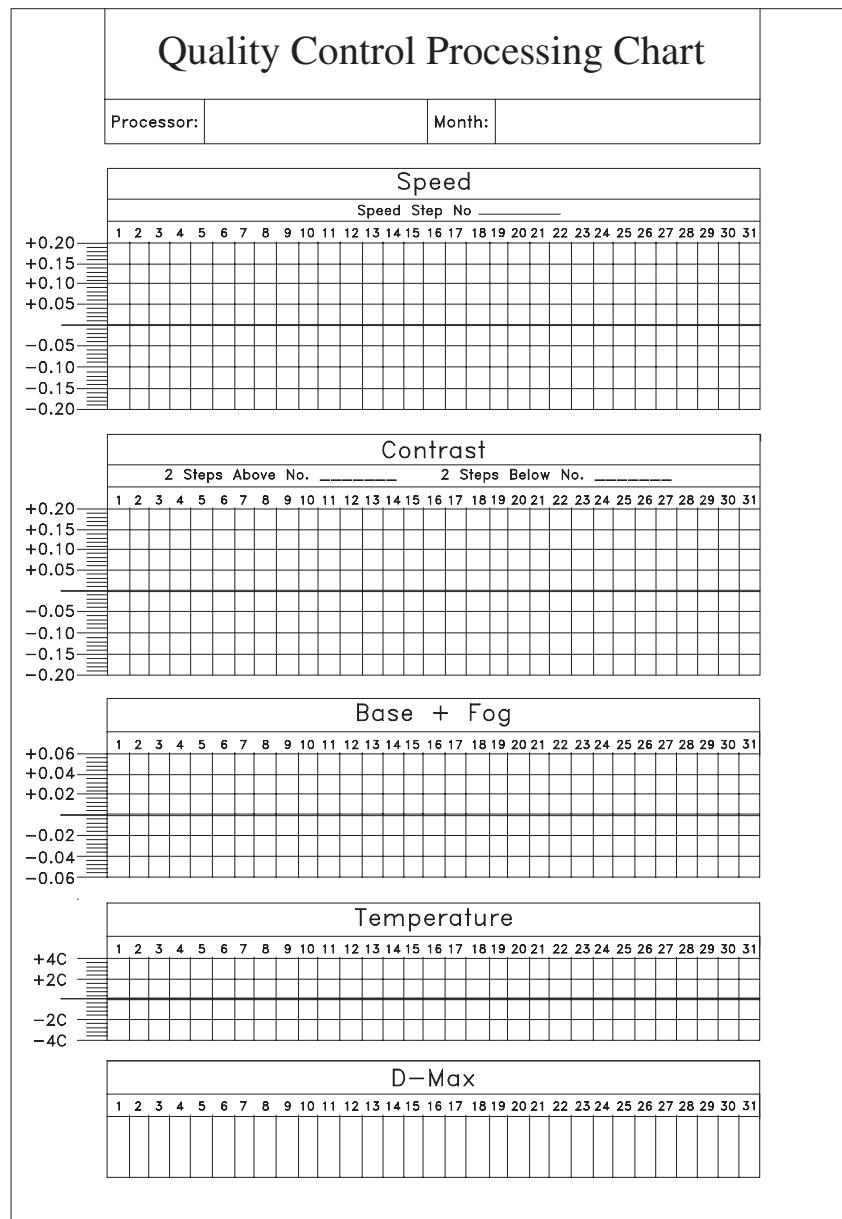

Fig A-3. Sensitometry charts for recording speed, contrast, base + fog, temperature and D-Max data
- Calculate the 'Speed', 'Contrast', 'Base plus Fog (D-Min)', 'Temperature' and 'D-Max' and enter on the appropriate graphs. (See Fig A-2 and Fig A-3)
- Measure and plot the density of the speed steps daily. (See Fig A-2, Fig A-3, and Appendix C page 177.)
- Repeat this process daily, plotting the contrast indicator under appropriate dates. (See Fig A-2, Fig A-3, and Appendix C page 177.)
- Repeat this procedure daily, plotting the base plus fog density under appropriate dates. (See Fig A-2, Fig A-3, and Appendix C page 177.)
- Repeat this procedure daily, plotting Temperature under appropriate dates, (See Fig A-2, Fig A-3, and Appendix C page 177.)
- Record against the zero line of the **D-Max Chart**. Do this only on day one, after the chemistry has been freshly mixed. (See Fig A-2, Fig A-3, and Appendix C page 177.)